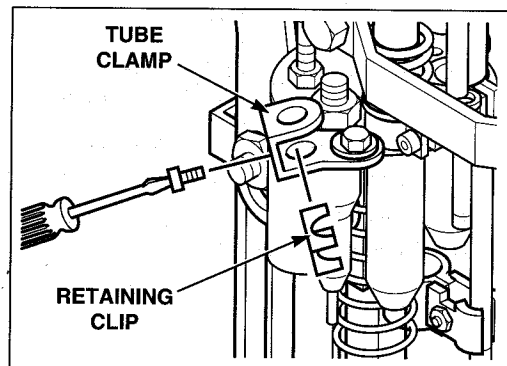
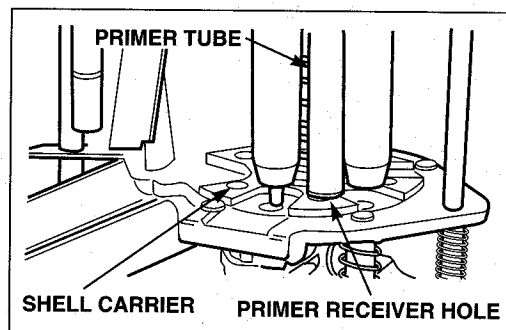

Figure 20
Figure 21
3. Set the retaining clip in place, Figure 20.
5. Apply and hold a downstroke to the reloader. Position the primer feed tray so that the primer tube is positioned over the primer receiver hole in the shell carrier, Figure 21. The tube should just contact the shell carrier. Tighten the screw to hold the tube and tray in position.
To assure proper operation of the primer feed and index mechanism, it is important to operate the machine through its full stroke. Check to be sure primers drop into the primer receiver hole, Figure 21 on page 11, advance, and drop into the primer seating assembly. Do this to 50 or more primers. If primers lie cocked on top of the carrier or do not drop into the primer receiver hole until the upstroke of the machine, it may be necessary to adjust or bend the tube clamp, Figure 20 on page 11.